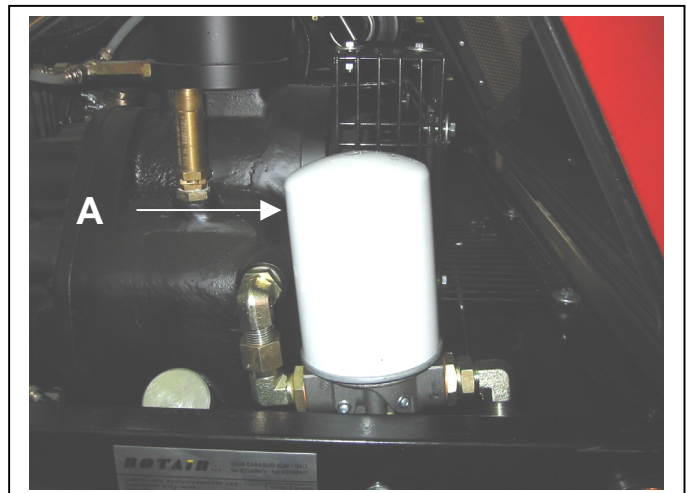

FIG. 19
-- 10.9) COMPRESSOR OIL FILTER REPLACEMENT (Fig. 19 --